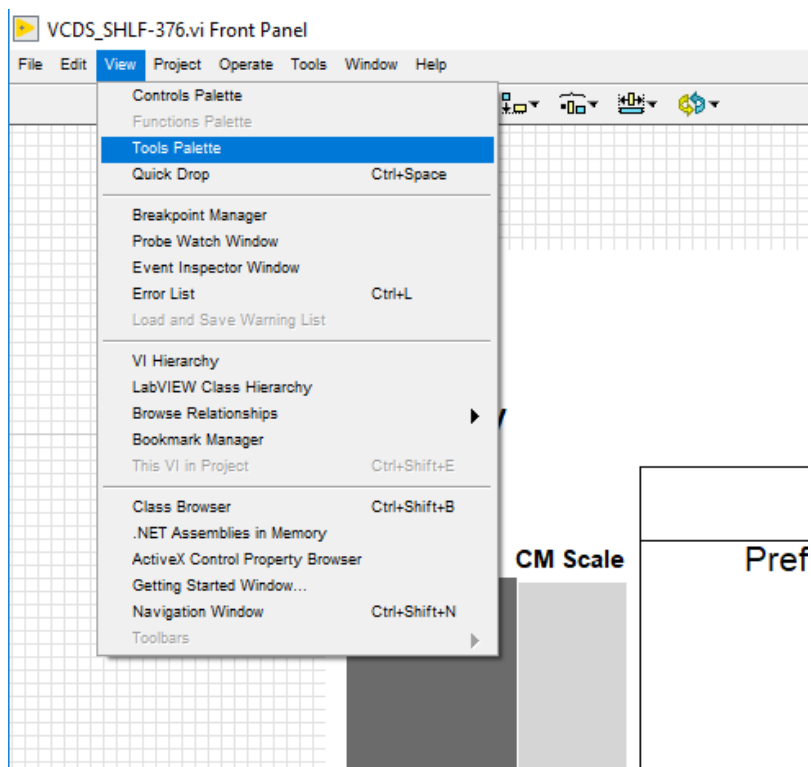

Figure 61. Select Tools Palette on LabVIEW
1. Navigate to the **'View'** button on the toolbar. Select the **'Tools Palette'** Option (Figure 61).